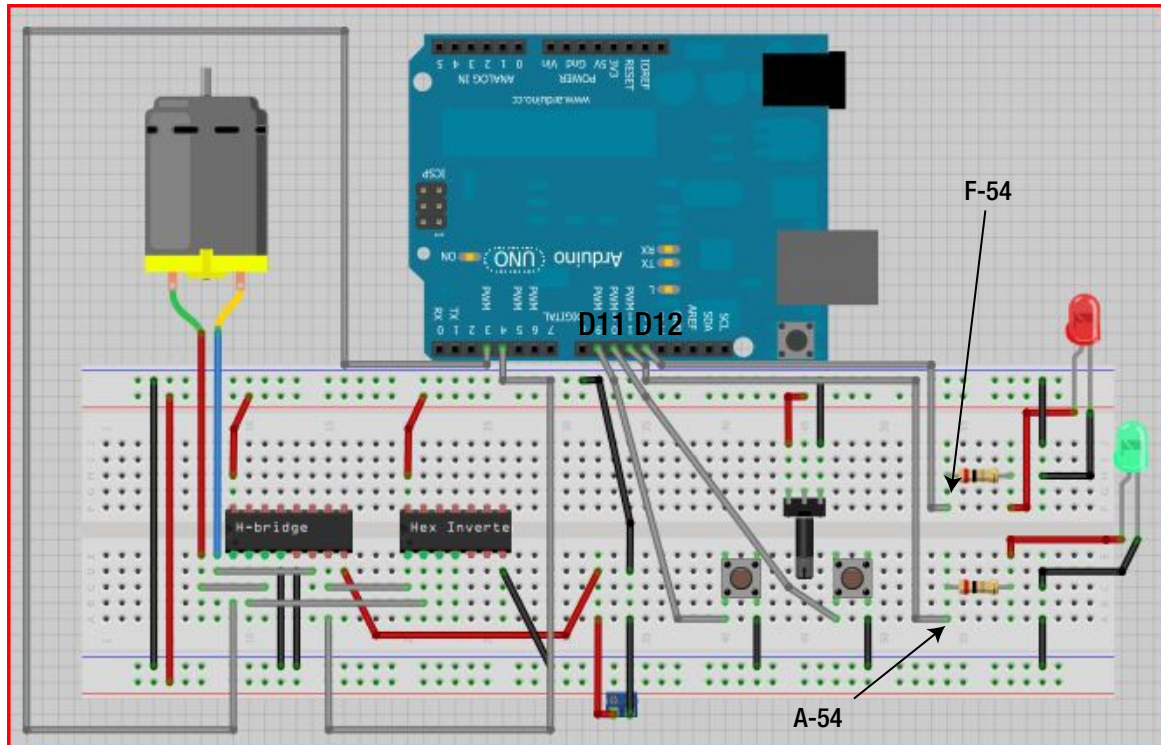

Figure 15-18. Attach the LEDs to the Arduino
26. Now insert another jumper wire at F-54 to connect one of the resistors (the one that is connected to the anode of the red LED) to digital pin 12 (D12) of the Arduino. Use another jumper wire at A-54 to connect the other resistor (connected to the anode of the green LED) to digital pin 11 (D11) of the Arduino. Figure 15-18 illustrates this process.